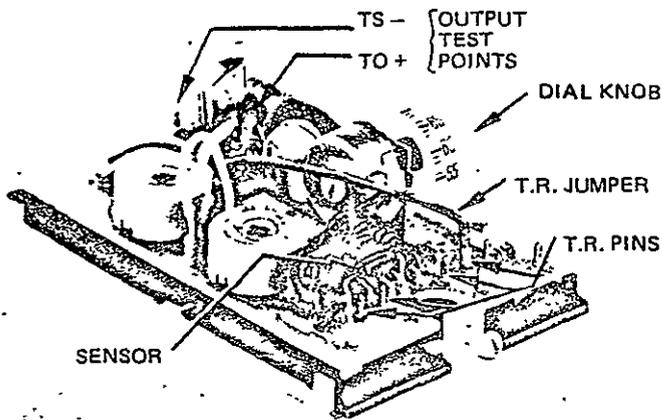

Fig. 1 - TP-8101 Component Locations
1. **Remote Setpoint:** Remove dial knob from the TP-8101, Figure 1, and install the AT-8158 remote setpoint adjustor between terminals 1, 2 & 7. This is used for applications where the setpoint adjustment is mounted remote from the TP 8101 controller.
2. **Remote Sensing:** Remove the internal 1000 ohm sensor, Figure 1, and install the remote sensor (TS-8000 series) between terminals 7 & 8. This is used for applications where the sensor is mounted remote from the TP-8101 controller.
Throttling range settings of 2, 3, 6 & 20 are available by placing the T.R. jumper on the proper selector pin, see Figure 1.